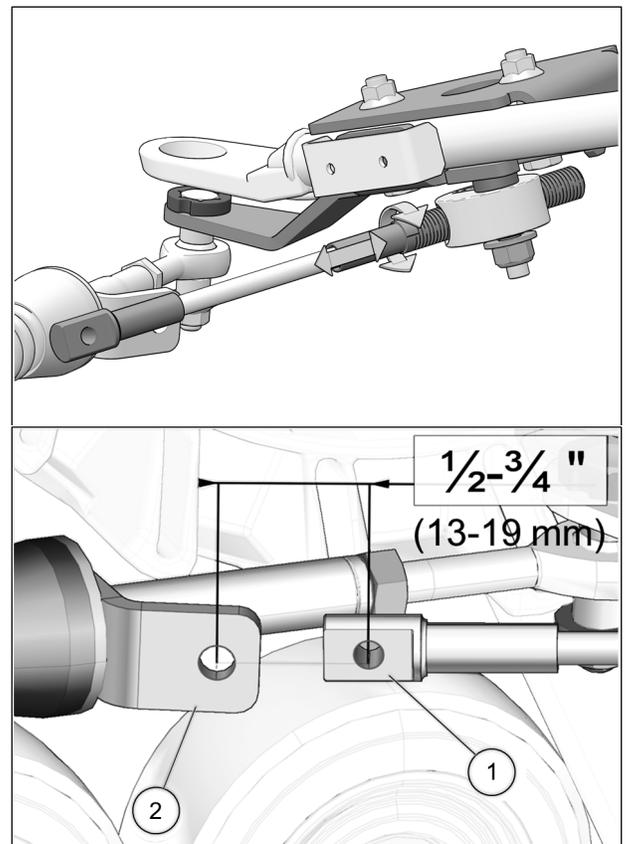

Fig. 23
13. Turn the vehicle's steering wheel to its maximum point of travel on the left. While maintaining pressure on the steering wheel, turn threaded rod to adjust length of cable so that the cable end hole (1) is located 13 to 19 mm [ $\frac{1}{2}$  to  $\frac{3}{4}$  in.] short of the mounting hole on the support plate (2). See Fig. 23